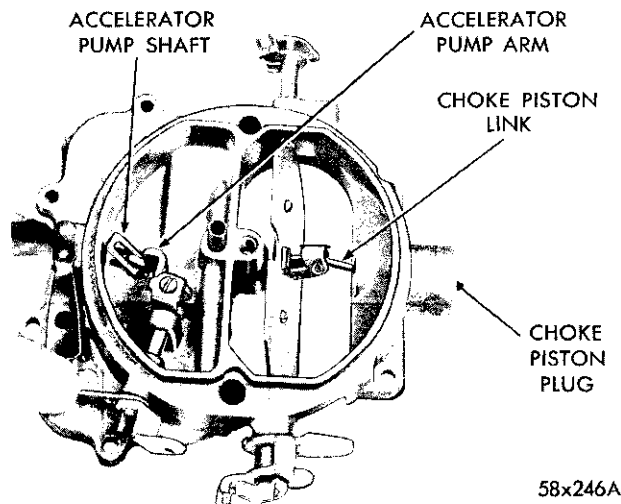

Fig. 5—Removing or Installing Accelerator Pump
(5) Disengage the accelerator pump plunger from the accelerator pump arm by pushing up on bottom of plunger and sliding plunger shaft off hook, as shown in Figure 5. Slide plunger out of air horn and remove the compression spring and seat.
(1) Check the freedom of the choke mechanism in the air horn. The shaft and piston must float free to operate correctly. If the choke piston sticks in the cylinder, pierce the welsh plug and remove plug and piston. Clean thoroughly and reinstall piston. Install new plug.
(2) Remove accelerator pump plunger from gasoline, slide compression spring and spring seat over shaft. Install assembly in air horn and engage with accelerator pump arm. (Refer to Fig. 5).
(3) Place a new gasket on the main body, and install the air horn. Install attaching screws and tighten securely. (When installing air horn, be sure the leather on the plunger does not wrinkle or fold back.)